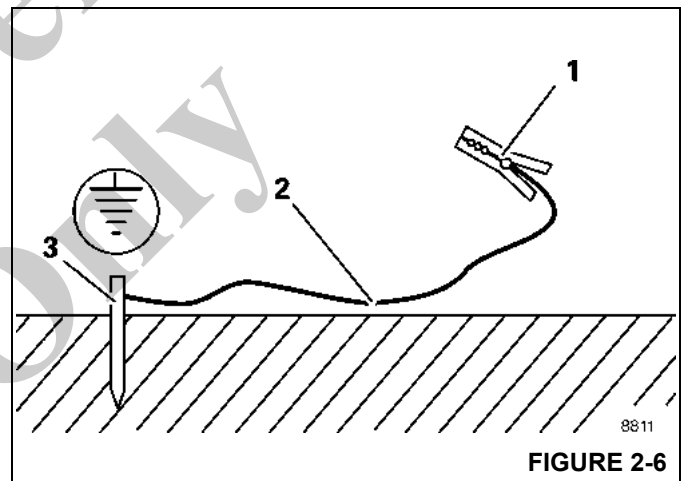

FIGURE 2-6
1. Hammer a metal rod (3, Figure 2-6) (length of approximately 2.0 m (6.6 ft)) at least 1.5 m (5 ft) into the ground.
2. Moisten the soil around the metal rod (3) for better conductivity.
3. Clamp an insulated cable (2) to the metal rod (3), cross-section of at least 16 mm2 (0.025 in2) (AWG 5).
4. Connect the free end of the cable with a clamp (1) to a good electrically conductive location on the frame.